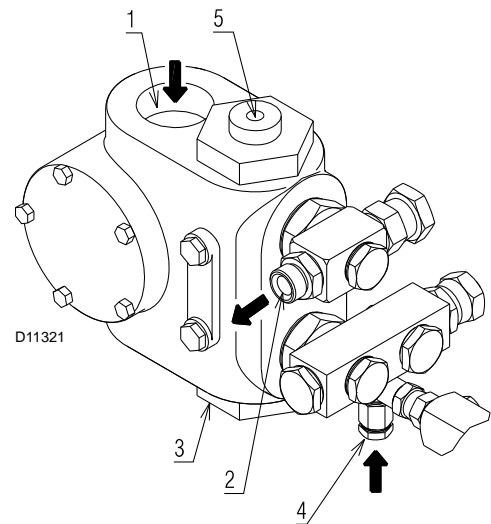

Fig. 25
- In order for self-priming to take place, the screw 4) on the pump (Fig. 25) must be loosened to bleed off the air contained in the suction line.
If the pump has been drained, fill it with fuel through the opening on the vacuumeter 3)(Fig. 25) prior to starting; otherwise, the pump will seize.
Key (Fig. 25)